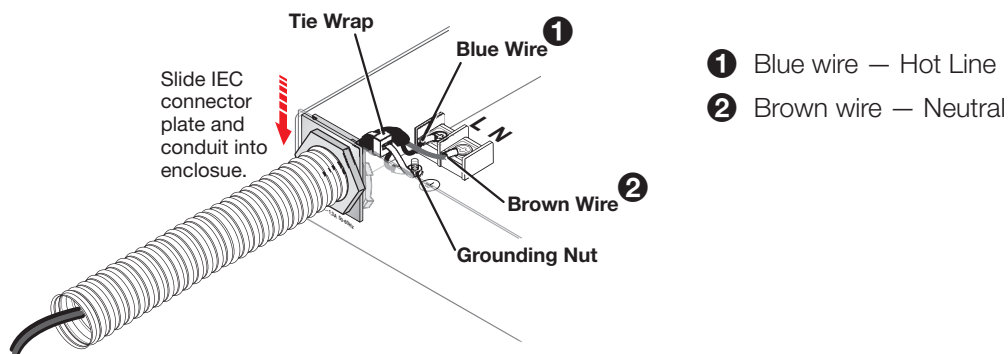

Figure 11. Install the Conduit Assembly
- Install the conduit with the new conduit plate attached into the opening from where the IEC connector was removed in step 5 (see figure 11).